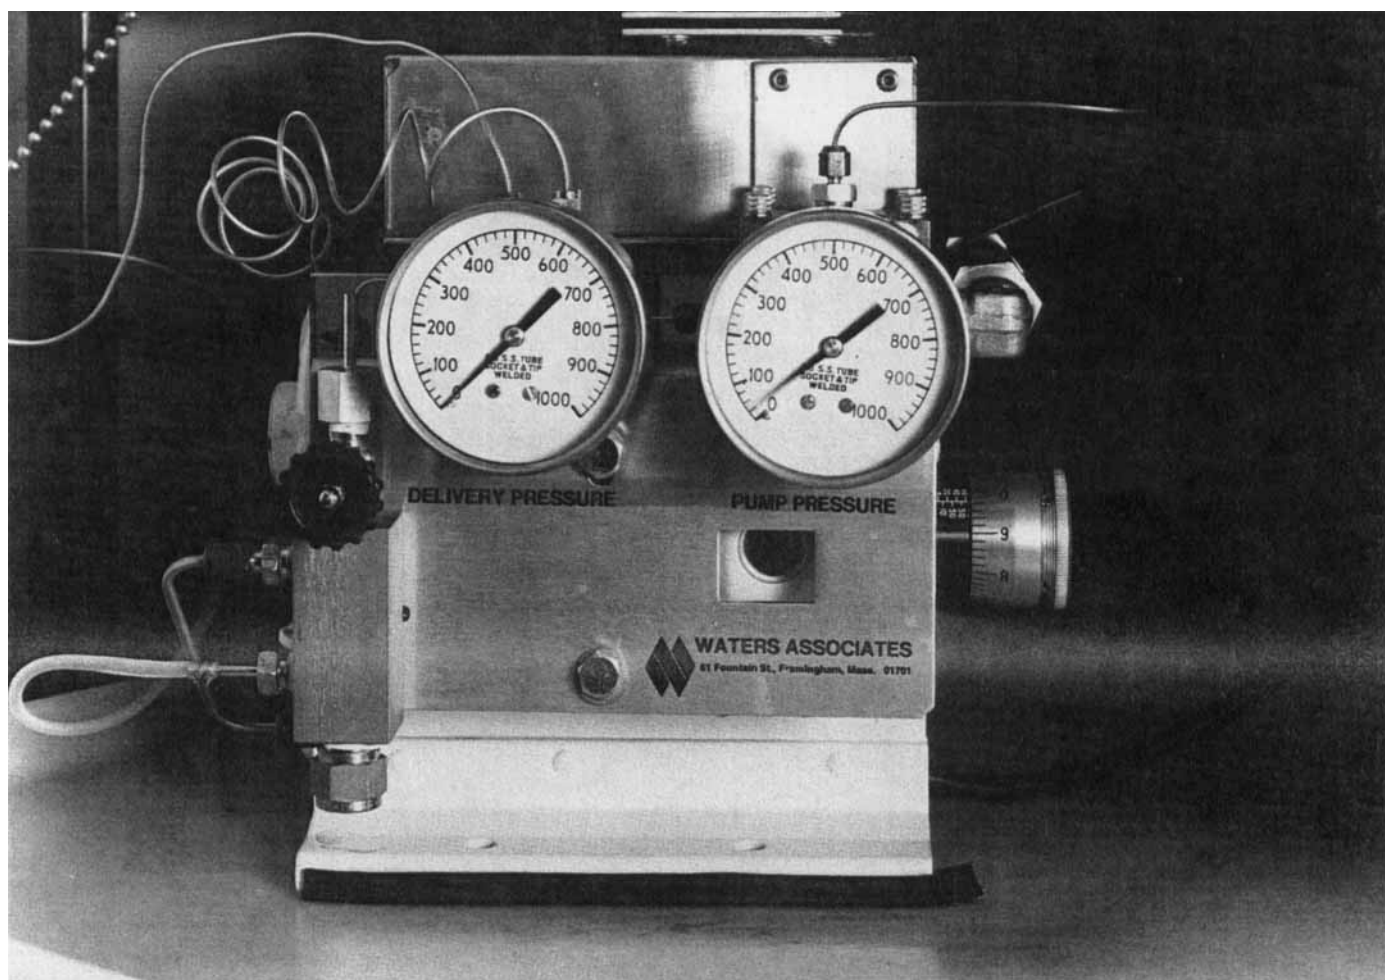

FIGURE 26. Waters-Millipore C903's early version of the LCD/Milton Roy miniPump modified for LC.
Waters marketed the LDC miniPumps as their C903 pump at about \$1500 in the early to mid-1970s, plumbed for LC and modified with (1) the Bal seal for leakproof operation, (2) heavier motors for higher pressure operation (to 6000), (3) a pressure gauge, and (4) a built-in Bourdon-type pulsation dampener to increase the system compliance and reduce pulsations (Figure 26). These seals and motors are part of the currently available miniPumps from LDC, and an accessory pressure monitor and pulse dampener is also available (about \$300).